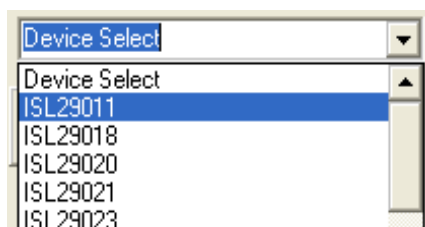

FIGURE 8.
- Go to “Device Select” tab and select whichever Device you have connected to your computer; for this example we will use “ISL29011”, as shown in Figure 8.